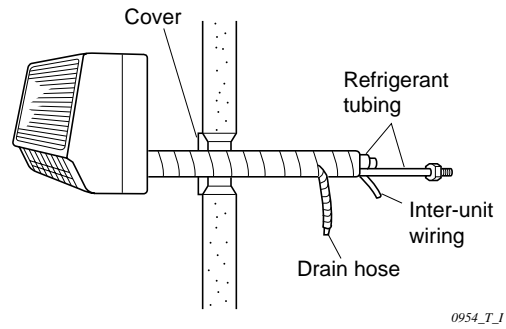
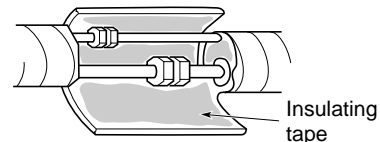

Fig. 3-47
Fig. 3-48
- (1) Shape the refrigerant tubing so that it can easily go into the hole. (Fig. 3-47)
- (2) Push the wiring, refrigerant tubing and drain hose through the hole in the wall. Adjust the indoor unit so it is securely seated on the wall fixture.
- (3) Carefully bend the tubing (if necessary) to run along the wall in the direction of the outdoor unit and then insulate to the end of the fittings. The drain hose should come straight down the wall to a point where water runoff will not stain the wall.
- (4) Connect the refrigerant tubing to the outdoor unit. (After performing a leak test on the connection, insulate it with insulating tape. (Fig. 3-48)) Also, refer to Section 10-5. "Connecting Tubing between Indoor and Outdoor Units".